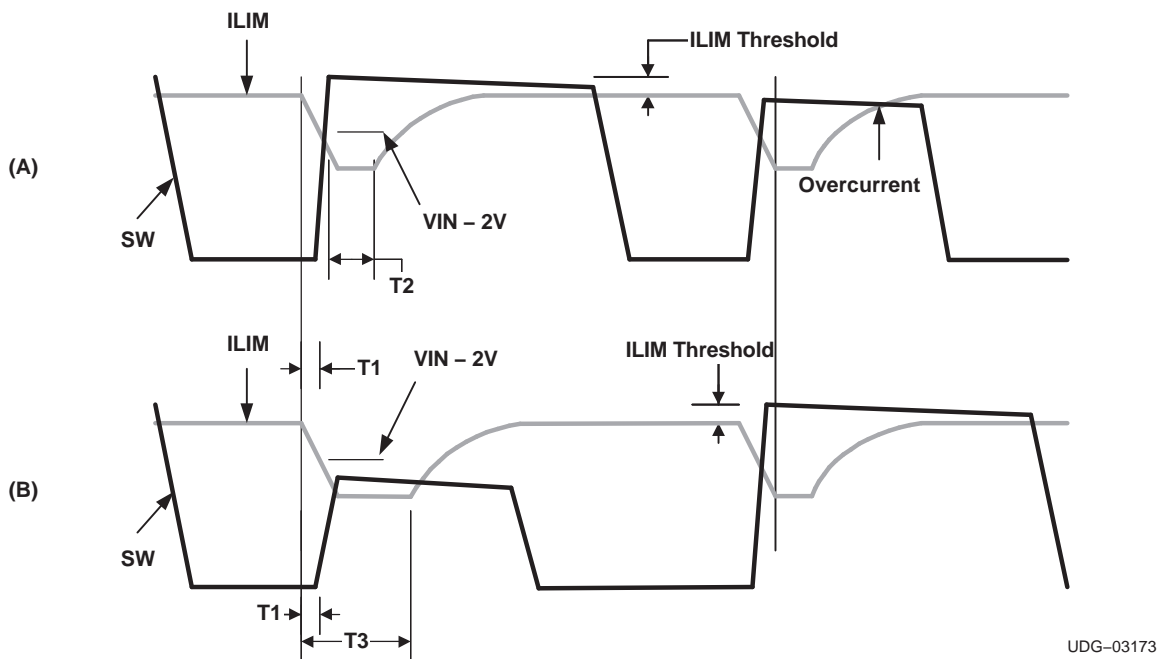

Figure 26. Switching and Current-Limit Waveforms and Timing Relationship
The TPS40077 uses a two-tier approach for short-circuit protection. The first tier is a pulse-by-pulse protection scheme. Short-circuit protection is implemented on the high-side MOSFET by sensing the voltage drop across the MOSFET when its gate is driven high. The MOSFET voltage is compared to the voltage dropped across a resistor ( $R_{ILIM}$ ) connected from  $V_{VDD}$  to the ILIM pin when driven by a constant-current sink. If the voltage drop across the MOSFET exceeds the voltage drop across the ILIM resistor, the switching pulse is immediately terminated. The MOSFET remains off until the next switching cycle is initiated. This is illustrated in Figure 26.
In addition, just prior to the high-side MOSFET turning on, the ILIM pin is pulled down to approximately half of  $V_{VDD}$ . The ILIM pin is allowed to return to its nominal value after one of two events occurs. If the SW node rises to within approximately 2 V of  $V_{VDD}$ , the device allows ILIM to go back to its nominal value. This is illustrated in Figure 26(A). T1 is the delay time from the internal PWM signal being asserted and the rise of SW. This includes a driver delay of 50 ns, typical. T2 is the reaction time of the sensing circuit that allows ILIM to start to return to its nominal value, typically 20 ns. The second event that can cause ILIM to return to its nominal value is for an internal timeout to expire. This is illustrated in Figure 26(B) as T3. Here SW never rises to  $V_{VDD} - 2$  V, for whatever reason, and the internal timer times out, releasing the ILIM pin.